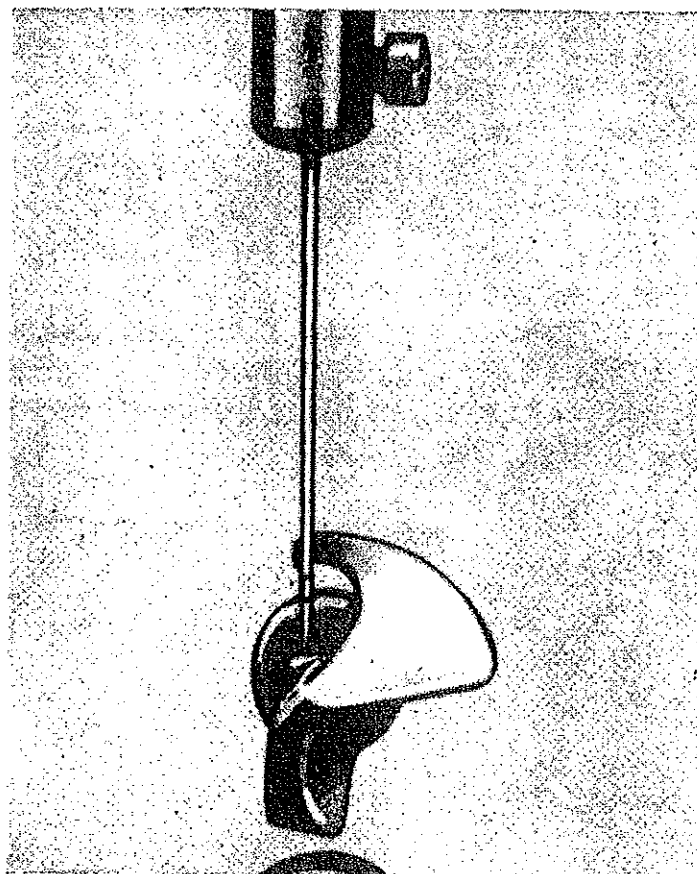

Fig. 7
The hand wheel should be turned in the proper direction (clockwise), until the needle bar is at its lowest point. Place a ruler on the top side of the thread take up eye (the one that projects through the long slot in the faceplate) so that a reading may be obtained (usually against the top edge of the faceplate) then continue to turn the hand wheel until the take up eye has moved up $5/32$ ". At this position the point of the looper should be just beginning to show from behind the needle (see figure 7).
1. Insert the new needle all the way up into the needle bar hole, making sure that there is no part of an old needle stuck up in the needle hole. 2. Providing the looper is properly timed in relation to the upstroke of the needle, (see preceding pages "Setting and Timing the Looper") the proper height, location, or position of the needle bar is determined by turning the machine until the looper point just begins to project from behind the needle, then raise or lower the needle bar so that the top of the eye of the needle is $\frac{1}{32}$ " (or $\frac{3}{64}$ ") below the lower edge of the looper. (See figure 7).